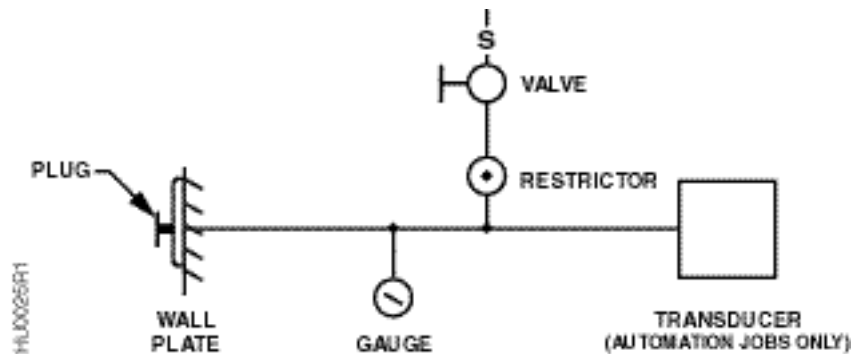

Figure 2. Gauge Placement.
- b. Place a gauge in the transmitter air line (include transducer, restrictor and wall plate.) See Figure 2.